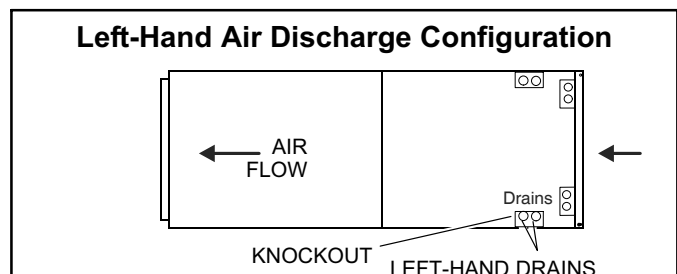

FIGURE 7
5. The horizontal configuration is shown in figure 7.